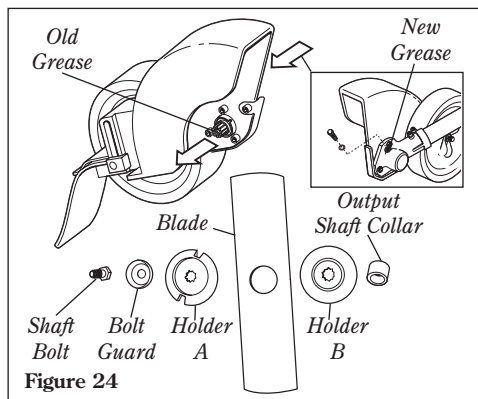

Figure 24
- Remove the cutting attachment, cutting attachment holder and the gear shaft collar. Remove the filler plug from the side of the gearcase and press new grease into the gear case until the old grease has been pushed out. Use only lithium-base grease such as Shindaiwa Gear Case Lubricant or equivalent. See Figure 24.